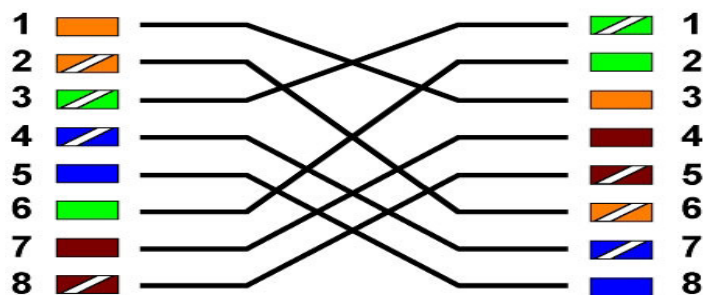

Figure 4 Network cables diagrams (Crossover and Straight)
- If you connect SDR to network router, hub or switch you should use Straight cable (see **Figure.4**)
- If you connect SDR to PC directly, you should use Crossover cable (see **Figure.4**)